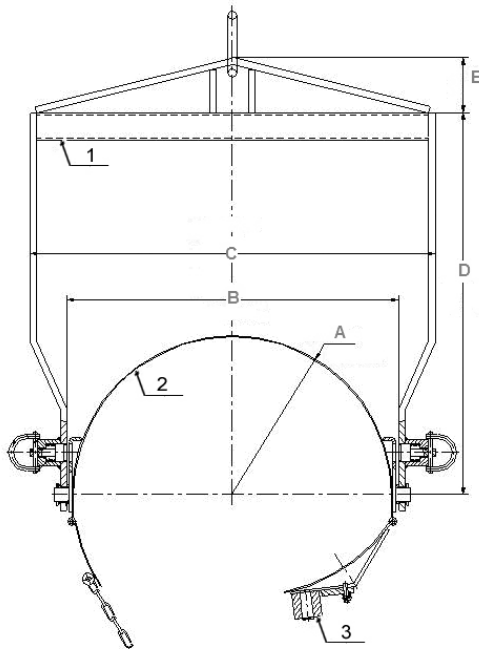

Figure 2
**(See Fig. 2 & 4 on previous pages)**
- (1) Lifter frame
- (2) Drum holder
- (3) Clamp
- (4) Rotator assembly
- (5) Geared driver assembly
- (6) Chain wheel